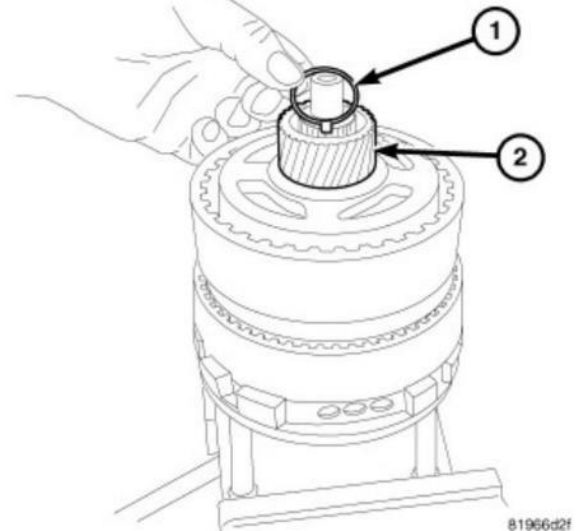

Figure 33 – Sun Gear Retaining Clip
47. **DISCARD** the retaining clip (1) that was removed from the transfer shaft (Figure 33).
48. Remove the sun gear (2) from the transfer shaft (Figure 33).
67. Install the sun gear (2) on the transfer shaft (Figure 33).
69. Install the **NEW** retaining clip on the transfer shaft with the three tabs on the clip facing toward the underdrive compounder assembly (Figure 33).